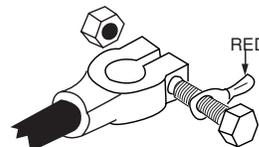

Figure 2. **Terminal Connections**
- c) Attach the red terminal to the positive battery post as illustrated in Figure 2.
- d) Fasten the black terminal to the vehicle chassis or to the engine block (preferred location). If a suitable location on the chassis or engine block cannot be found, the connection may be made at the battery using the illustration in Figure 2.